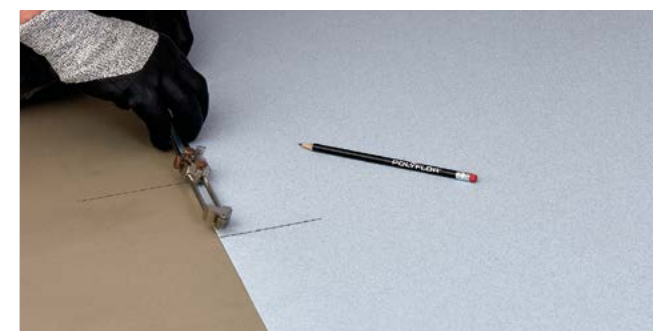

Figure 14 Scribing the wall profile
- ▶ Set the scribes to the distance now between lines C and D (Fig 14)